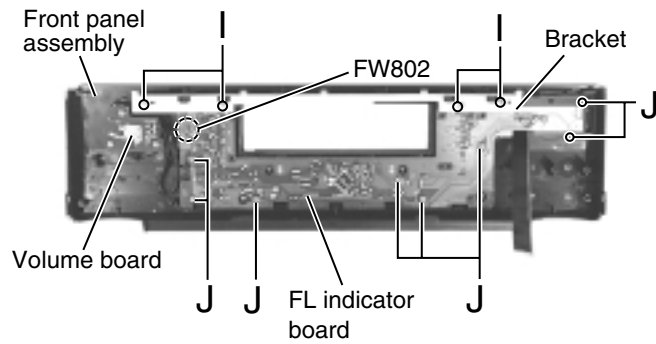

Fig.15
**■ Removing the Front board (See Fig.15)**